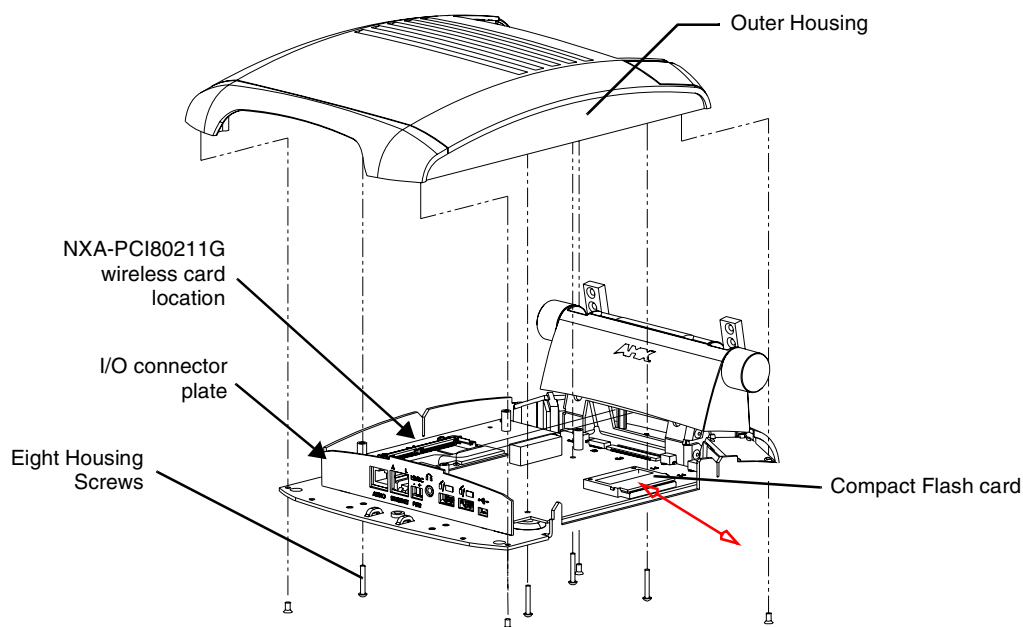
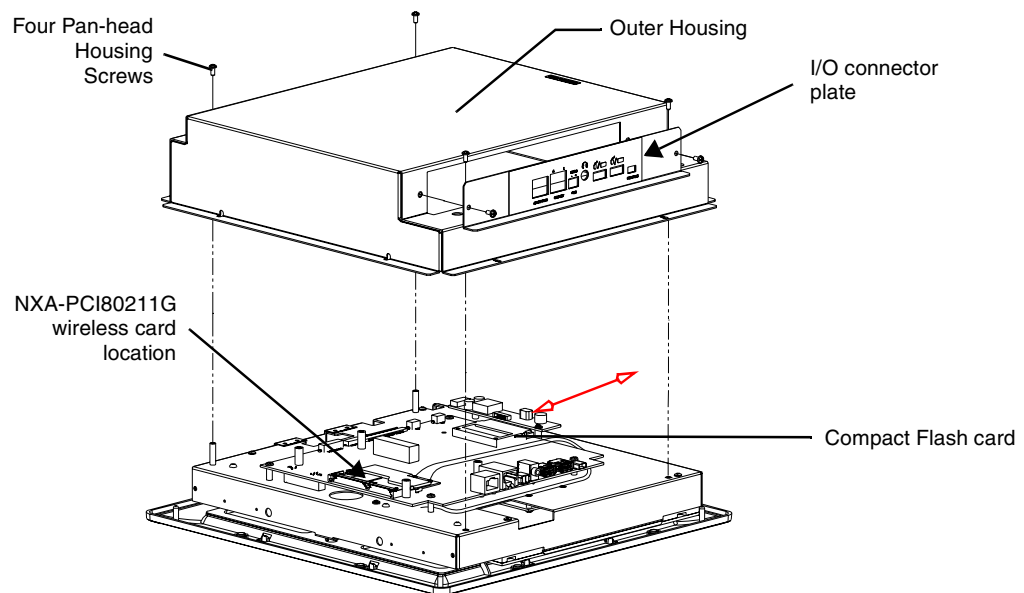

FIG. 20 Location of the Compact Flash card and I/O plate on NXT
FIG. 23 Location of the Compact Flash card and I/O plate on NXD
1. Discharge any static electricity from your body by touching a grounded metal object and then locate the existing Compact Flash card (*factory-shipped with 128 MB*) on the main board (FIG. 20 for Table Top panels and FIG. 23 for Wall Mount panels).